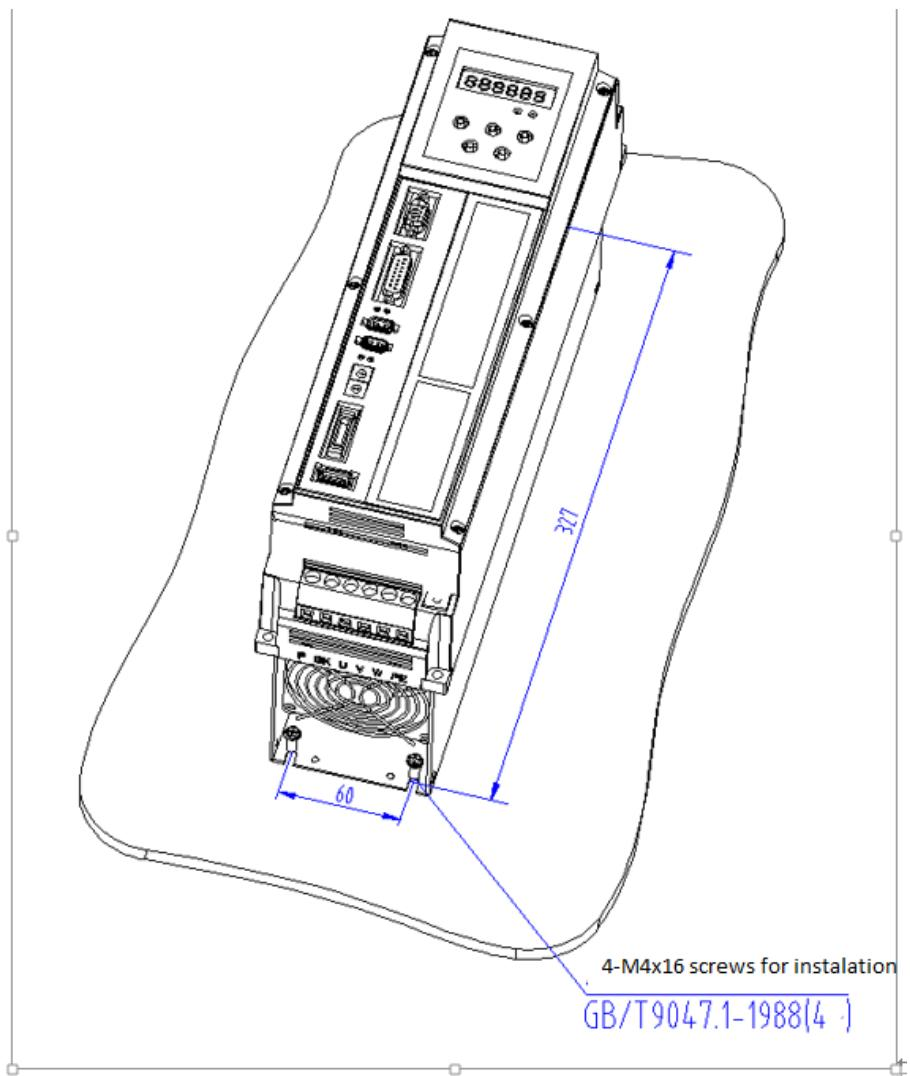

Figure 5.4.1 Wall mounted installation mode of HSV-180US-035, 050, 075 spindle
- Wall mounting without auxiliary devices, as shown in Figure 5.4.1